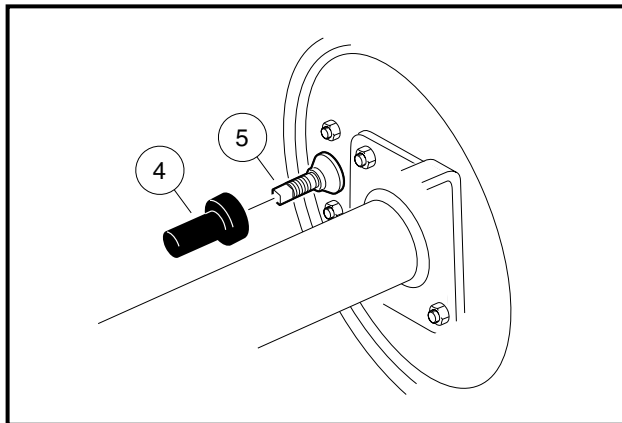
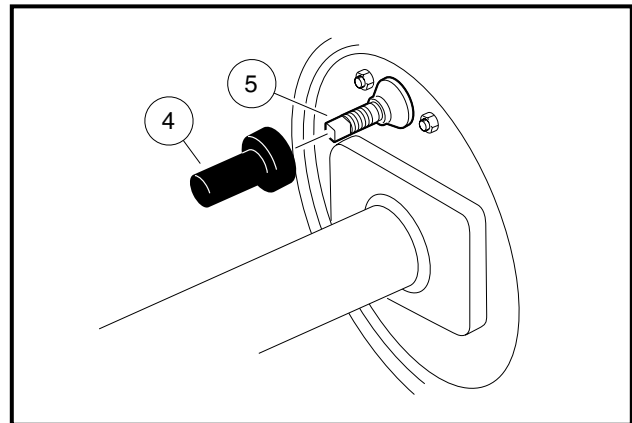

Figure 6-29 Front Brake Adjustment Bolt
Figure 6-30 Rear Brake Adjustment Bolt
3. Remove the dust cover (4) on the left and right rear brake cluster assemblies (**Figure 6-30, Page 6-13**).
3. Install the rubber dust covers (4) over the brake adjustment bolts (5) (**Figure 6-29, Page 6-13 and Figure 6-30, Page 6-13**).